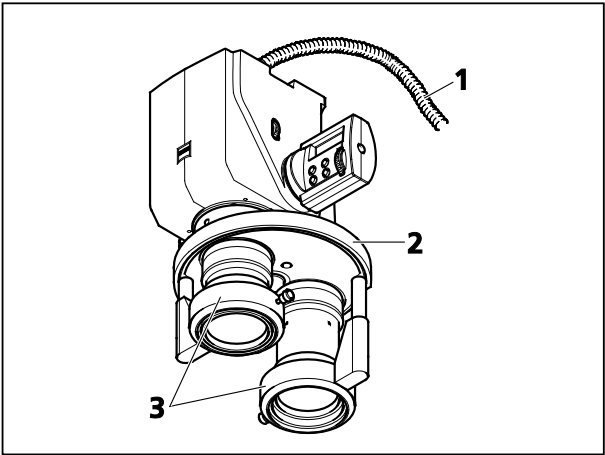

Fig. 34 Slit-ring illuminator without light guide on the nosepiece
Fiber-optic slit-ring illuminators for the nosepiece (Fig. 34/3)
-  Each objective requires its own ring illuminator. The incoming light guide (Fig. 34/1) always supplies light to the ring illuminator on the currently swung-in objective (Fig. 34/2).